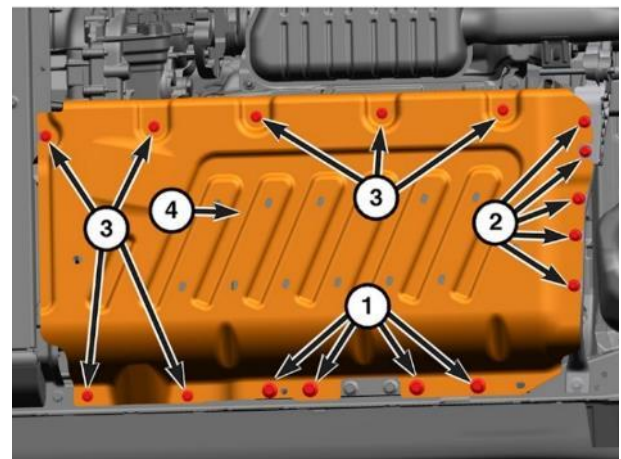

Figure 31 – Secondary Battery Skid Plate
5. Remove the bolts securing the PHEV primary battery skid plate to vehicle (Figure 31).
6. Remove the PHEV primary battery skid plate from vehicle (Figure 31).